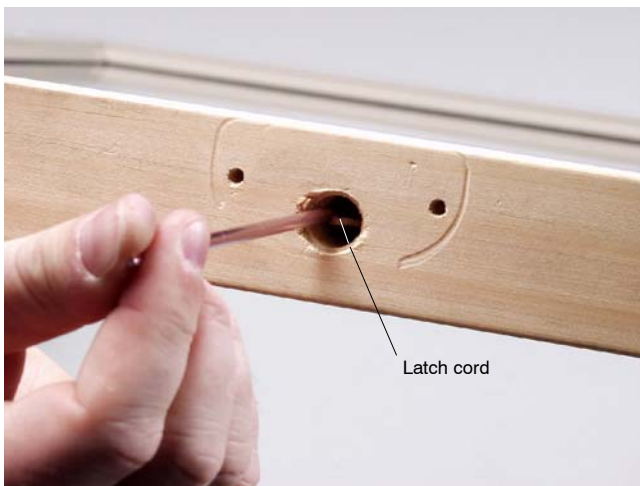

Figure 8-Capturing latch cord
15. Carefully grab the latch cord with the crochet hook. Pull up on the cord to make sure the locking blades depress. See figure 8.